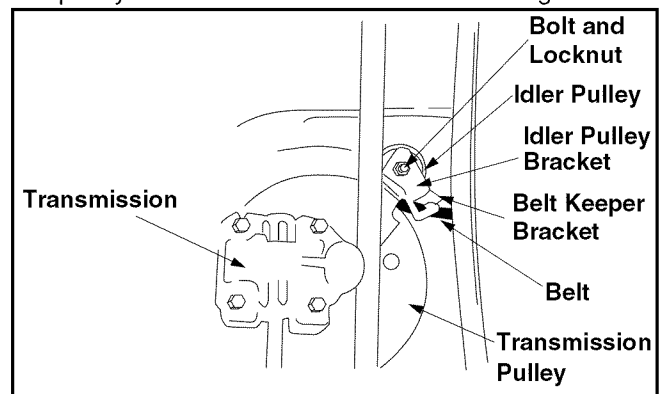

Figure 17
- Tilt the transmission forward and loosen the idler pulley bolt and lock nut half a turn. See Figure 17.
- Slide the belt out from between the belt keeper bracket and the idler pulley. See Figure 17.